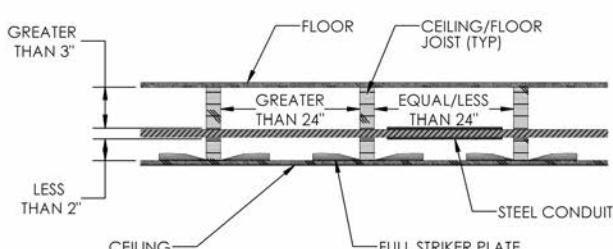
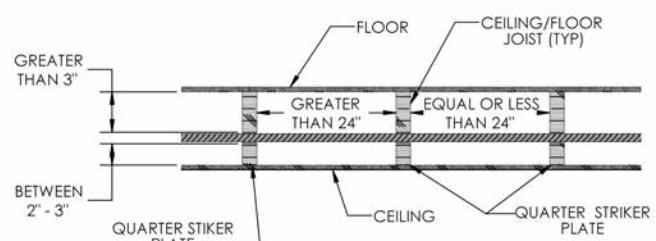

Figure 4.7
Figure 4.8
- B. At concealed support points and points of penetration within 2 to 3 inches from any stud, joist, plate, etc., listed quarter striker plates are required at the area of support. Figure 4.7 and Figure 4.8 show proper means of protection for this type of installation.